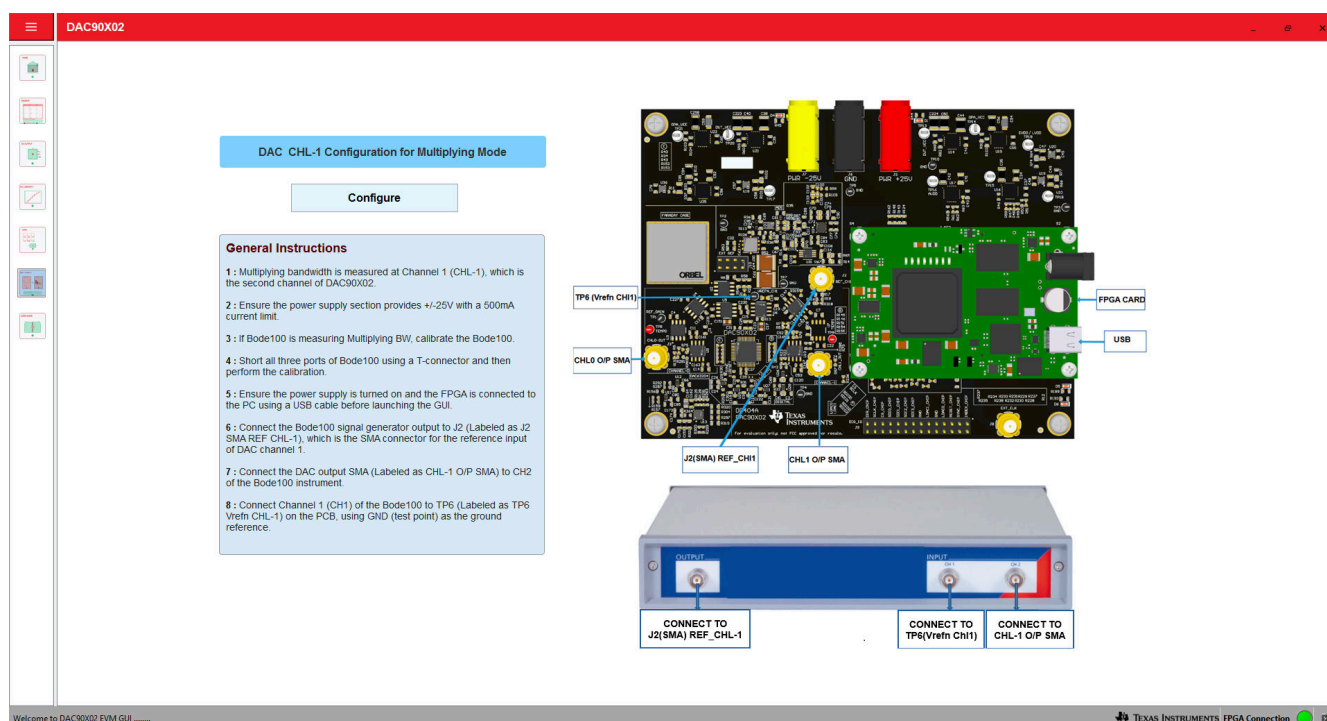

Figure 3-12. DAC90802EVM GUI Multiplying Mode Page
Figure 3-12 illustrates the recommended connections and instructions for multiplying bandwidth measurement using a network analyzer (bode 100 network analyzer). Verify all procedural instructions are completed prior to initiating the measurement:
2. Connect the network analyzer as shown in Figure 3-12.